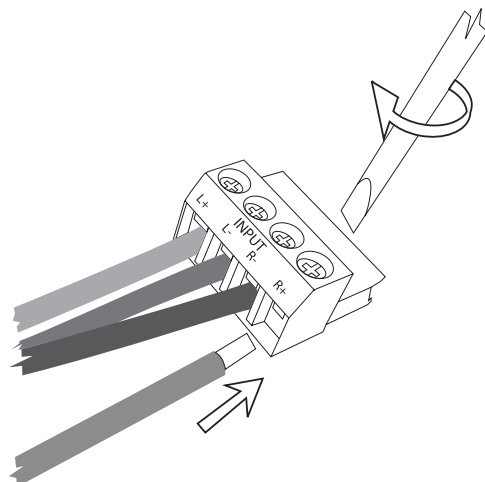

Figure 1
2. Strip a ¼-inch (7mm) of insulation from the end of the wires. Connect the wires to the removable connector plugs using a small, standard-head screwdriver (see Figure 1). The plugs are labeled to simplify installation.